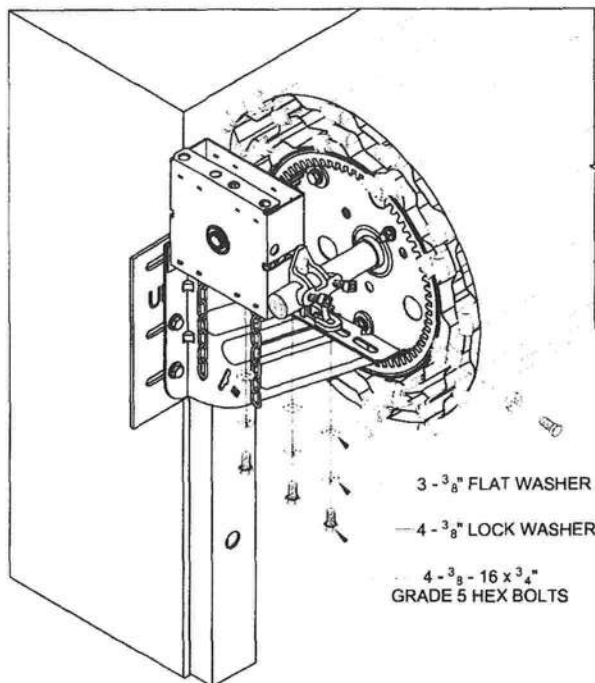

FIGURE 17: CAST AXLE SUPPORT TO BRACKET
- Position chain hoist assembly on door bracket next to cast axle support and attach to door bracket using 2 each $\frac{3}{8}$ - 16 x $\frac{3}{4}$ " grade 5 hex bolts, $\frac{3}{8}$ " lock washers and $\frac{3}{8}$ " flat washers. The spur gear on the hoist will engage with the internal teeth of the previously installed cast ring gear. See figure 17.
- Connect cast axle support bracket to side of chain hoist using $\frac{3}{8}$ - 16 x $\frac{3}{4}$ " hex bolt and $\frac{3}{8}$ " lock washer. See Figure 17.